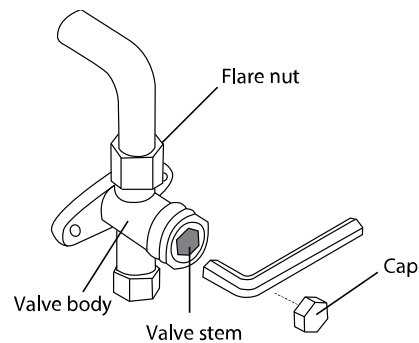

Fig. 23 —Service Valve Diagram
2. For size 18, **DO NOT** open the Gas or Liquid service valves until the evacuation is complete. For sizes 24-48, fully open all the connected individual service valves (with the line set attached). **DO NOT** open the Master Service Valves until the evacuation is complete (see Fig 23).
9. Insert a hexagonal wrench into each Gas Side Service Valve for size 18 or into the Master Gas Side Service Valve for sizes 24-48 and open the valve by turning the wrench 1/4 counterclockwise. Listen for gas to exit the system (see Fig. 23).
12. Using a hexagonal wrench, fully open all the gas and liquid service valves for the size 18 and all the Master Gas and Liquid service valves for sizes 24-48 (see Fig. 23).